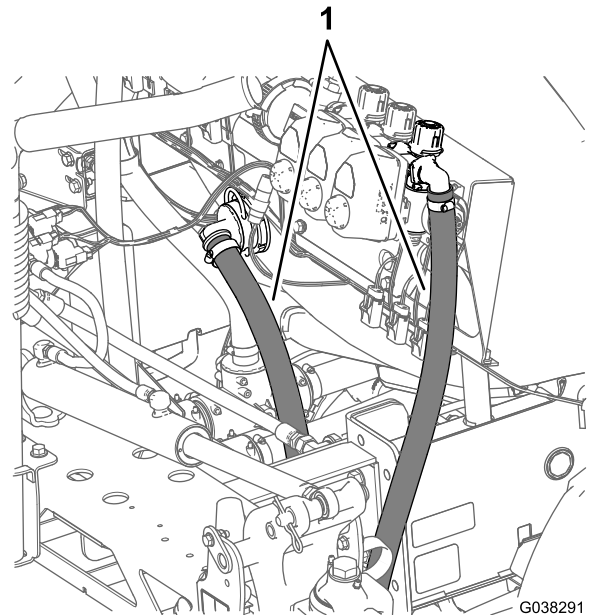

Figure 78
- Route the section bypass hose around the right frame channel toward the bulkhead fitting in the sprayer tank as shown in Figure 78.